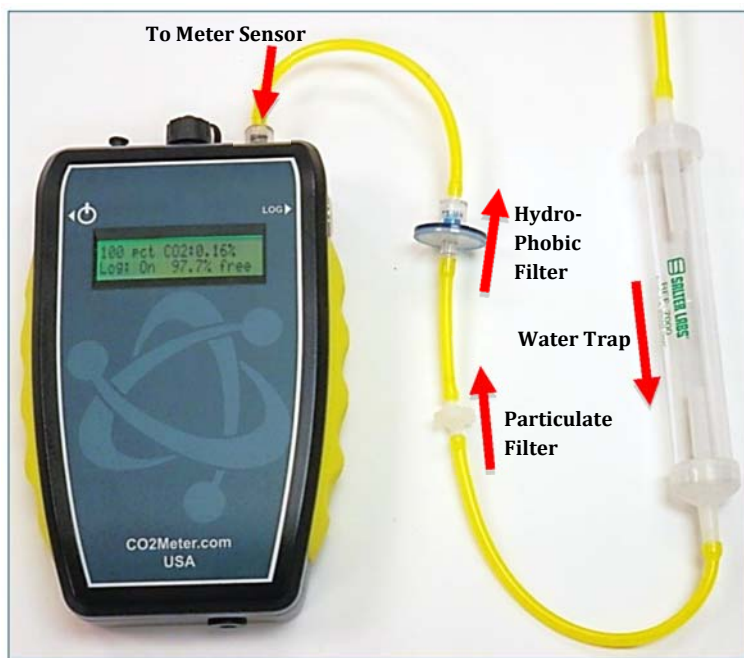

Figure 6: Filter Installation and Orientation
2. Install filters and tubing included as shown on Figure 6.